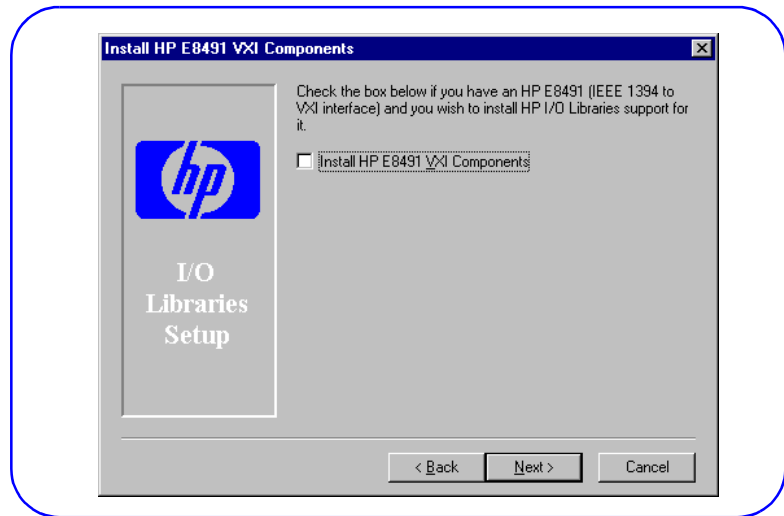

Figure 19. Install HP E8491 VXI Components Screen
- 5 When the **Install HP E8491 VXI Components** screen appears (see Figure 19), check the “Install HP E8491 VXI Components” box if your system has an HP E8491A (IEEE-1394 to VXI interface) and you want to install drivers for it. Then, click *Next*.